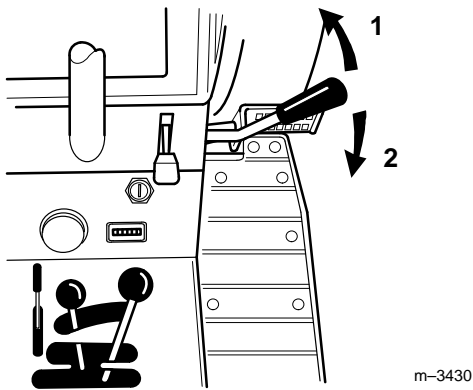

Figure 17
2. Push the power take off (PTO) lever forward to engage (Fig. 17).
2. Pull the power take off (PTO) lever back to disengage (Fig. 17).